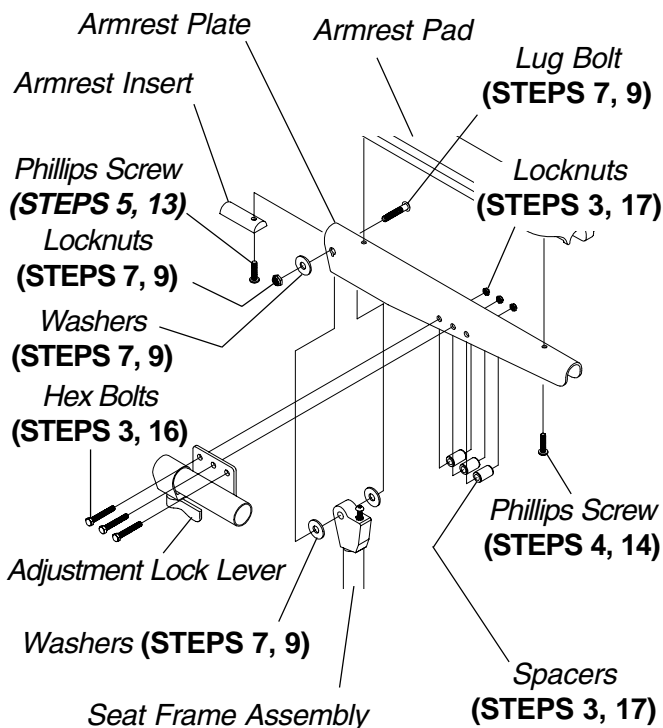

FIGURE 9 - REPOSITIONING MKIV JOYSTICK - CAPTAIN'S SEAT
REPOSITIONING MKIV JOYSTICK - CAPTAIN'S SEAT (FIGURE 9)
3. Remove the three (3) hex bolts, spacers and locknuts that secure joystick mounting bracket to armrest plate.
9. Position armrest plate with joystick mounting holes on desired side of seat frame assembly and secure with lug bolt, washers and locknut. Refer to FIGURE 9.
10. Position armrest plate without joystick mounting holes on opposite side of seat frame assembly and secure with lug bolt, washers and locknut. Refer to FIGURE 9.
16. Install Loctite 242 onto the three (3) hex bolts.
17. Install the three (3) hex bolts, spacers and locknuts that secure joystick mounting bracket to armrest plate.